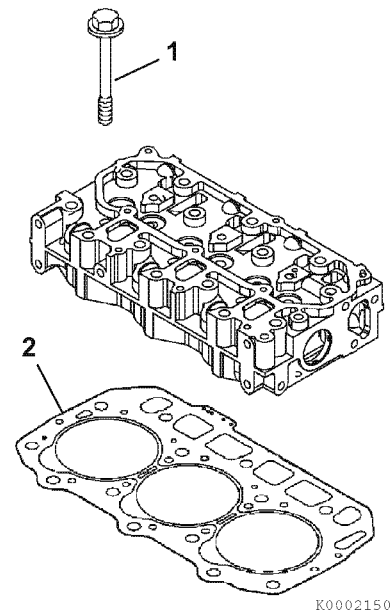

Figure 6-7
2. Remove the cylinder head bolts (**Figure 6-7, (1)**).
3. Lift the cylinder head away from the cylinder block. Discard the cylinder head gasket (**Figure 6-7, (2)**). Position the cylinder head on the work bench to prevent damage to the combustion surface.